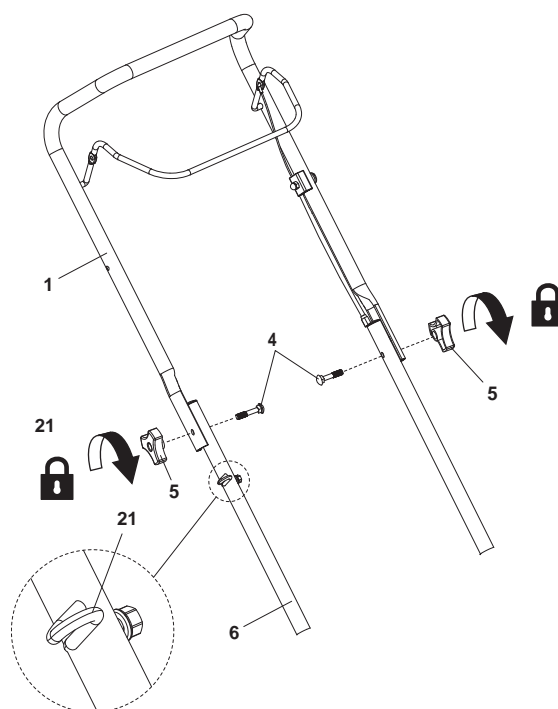

Fig. 4
4. Align the mounting holes of the upper handle bar (1) with the ones on the lower handle bar (6). Ensure the rope guide (21) is properly aligned. Secure the connection with the knobs (5) and bolts (4) (Fig.4).